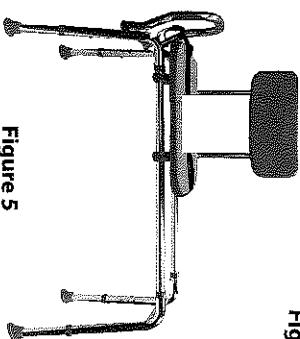

Figure 5
9. Sit the bench up on the legs. Insert the backrest (Part F) into the tubes underneath the seat while depressing the two brass push buttons on the frame of the backrest. Continue to push in the backrest until the brass push buttons snap firmly into place. See *Figure 5*.